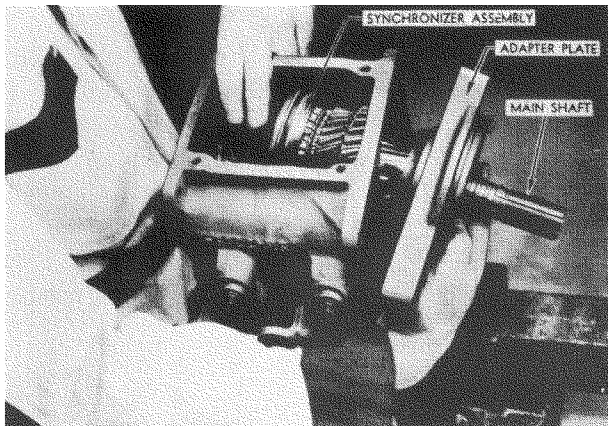
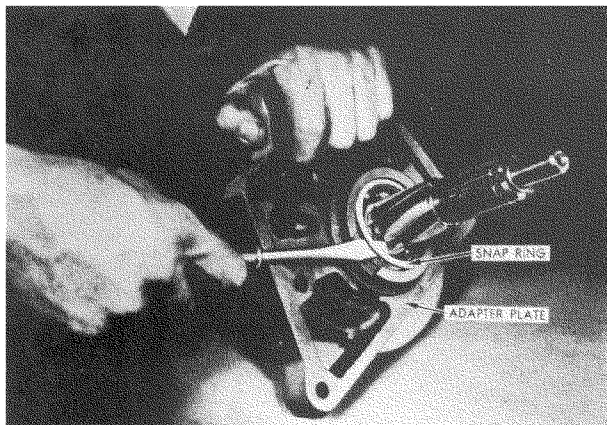

Figure 19.
Figure 20.
**m.** Remove the main shaft, adapter plate, gears, and synchronizer assembly from the transmission case as a unit (**Fig. 19**). After removing the synchronizer assembly and the gears from the main shaft, remove the main shaft rear bearing large snap ring (**Fig. 20**). Then pull the adapter plate off the main shaft rear bearing and remove the oil slinger from the adapter plate.